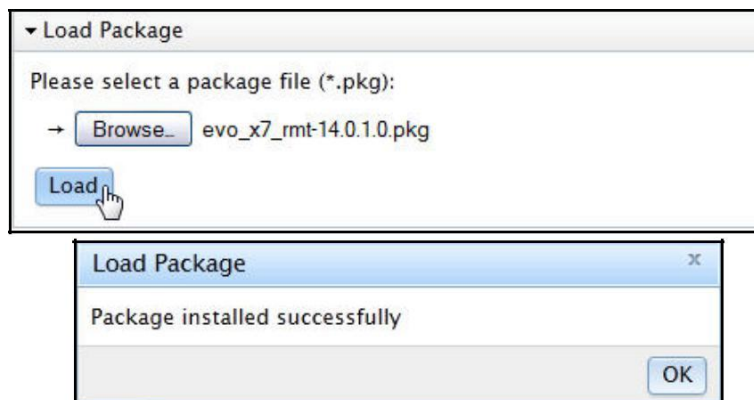

Figure 32. Load Package Status Box
5. Click **Load**. The **Load Package** status box (Figure 32) appears upon completion.